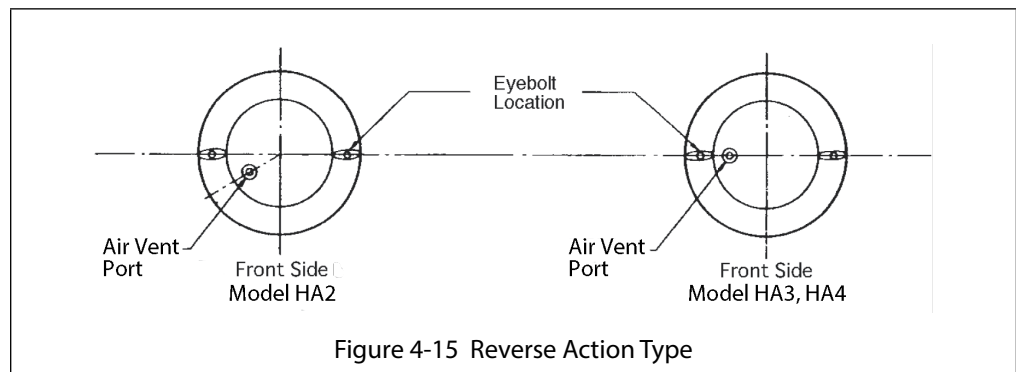

Figure 4-15 Reverse Action Type
- (5) Place the top diaphragm case and fix it with the pair of eyebolts. Set the air vent hole in the location shown in the illustration (Figure 4-15). Uniformly and alternately tighten the eyebolts. The initial setting of the springs is complete by tightening of these eyebolts.